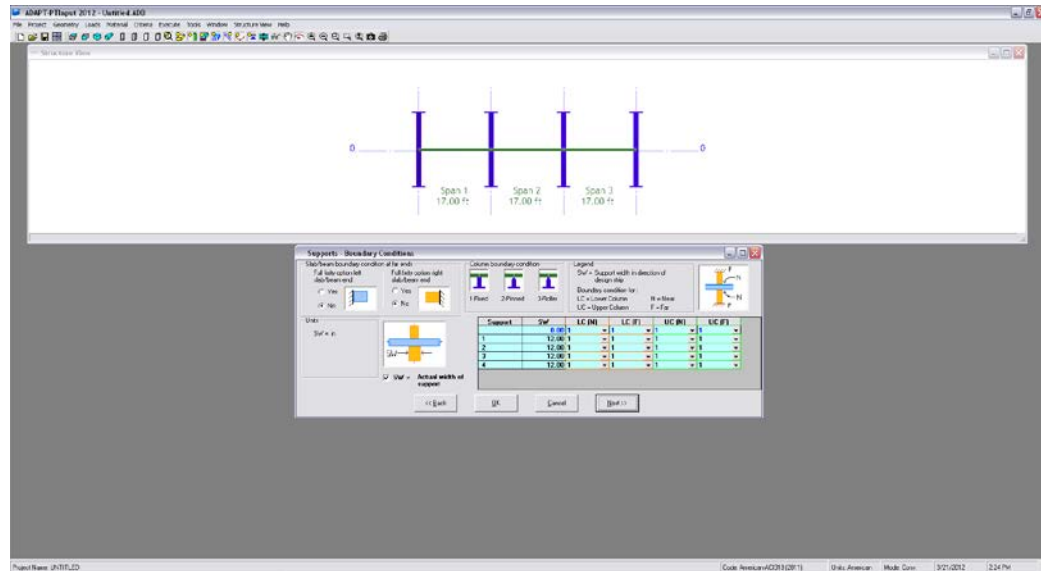

FIGURE 3.1-6
3.1.2.3 Enter Support Boundary Conditions (Fig. 3.1-6)